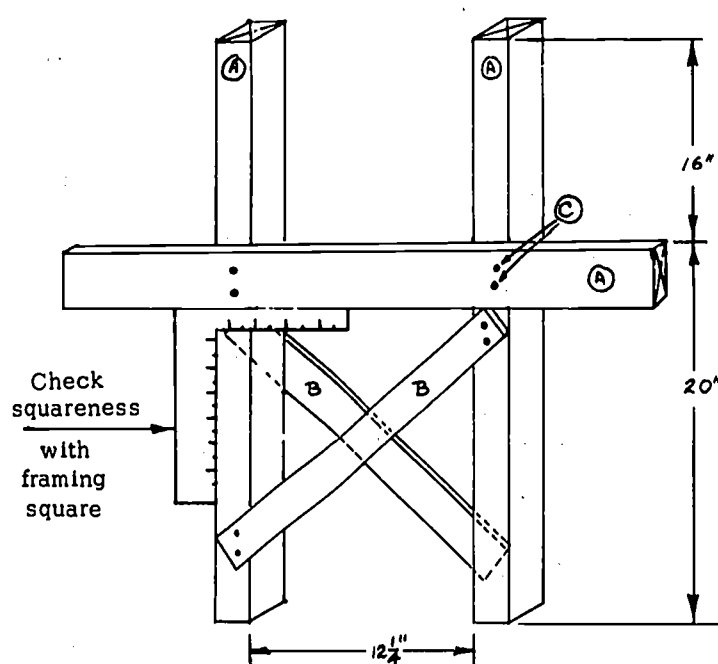

Fig. 46-4. Shoring Construction
2. Construct two shoring members as shown in Fig. 46-4.